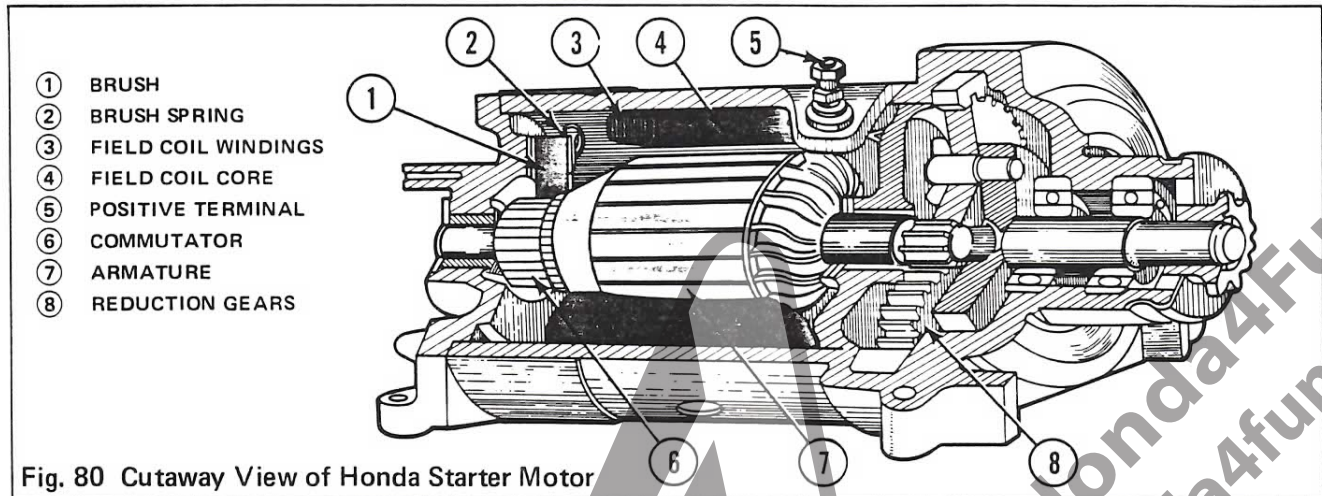

Fig. 80 Cutaway View of Honda Starter Motor
A cutaway view of a Honda starter motor is shown in Fig. 80. A diagrammatic view of the same motor is shown in Fig. 81.
The torque of a motor containing only a single armature winding (Fig. 76 - 79) is neither continuous nor very effective. A practical starter motor (Fig. 80) contains a large number of wire coils wound around a laminated iron armature core. At one end of the armature (7), there are a number of copper commutator segments (6), corresponding to the number of armature coils. The commutator segments are insulated from each other by pieces of mica. The armature coils are so spaced that, for any position of the armature, there will be coils near the poles of the field magnets (4). This makes the torque both continuous and strong. Electromagnets (3) (4) are used in the starter motor because they can be made to furnish a stronger field than the permanent magnets shown in Fig. 76 - 79.
The armature shaft is connected to reduction gears (8) which multiply the motor's torque, enabling it to crank the engine. Reduction gears may be contained in the engine crankcase or built into the starter motor housing, depending on Honda model. Fig. 80 shows a planetary gear set (8) within the starter motor housing.